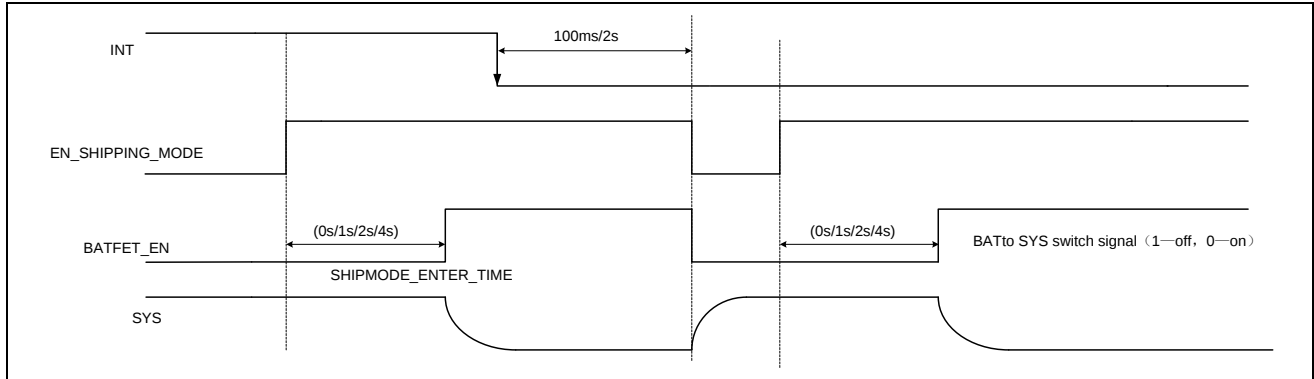

Figure 8. Enter Shipping Mode and Exit Shipping Mode by INT Low Level
- When the IC is in the shipping mode and only the Battery is present, pulling INT down by pushing KEY1 (see the "TYPICAL APPLICATION CIRCUIT") to make INT keep low with 100ms/2s, could wake the ET9563 up from shipping mode. After exiting shipping mode, the EN_SHIPPING_MODE will be reset to 0. (refer to table 2 and figure 8)